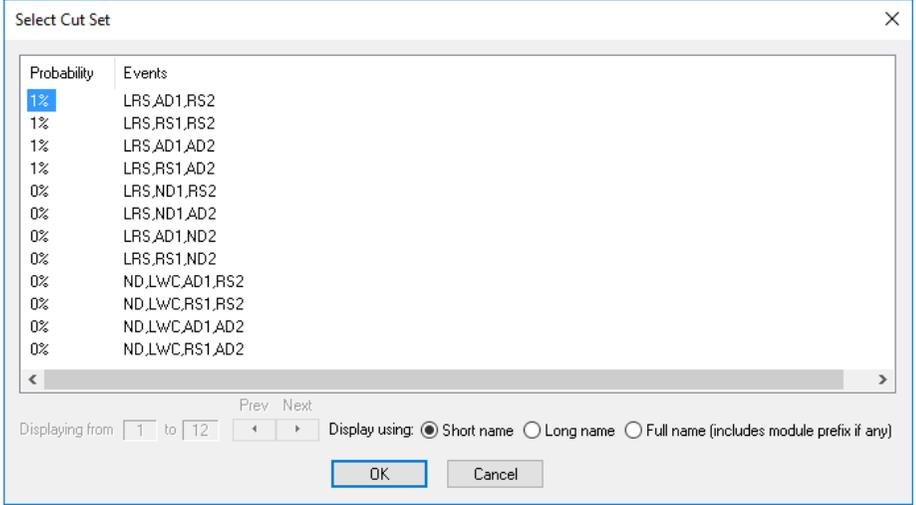

Figure 5-3. Select Cut Set Dialog
- ⇒ To see the list of cut sets select Fault Tree | Display | Select Cut Set or double-click in whitespace within the Cut Set Viewer window. The Select Cut Set dialog appears as shown in Figure 5-3.